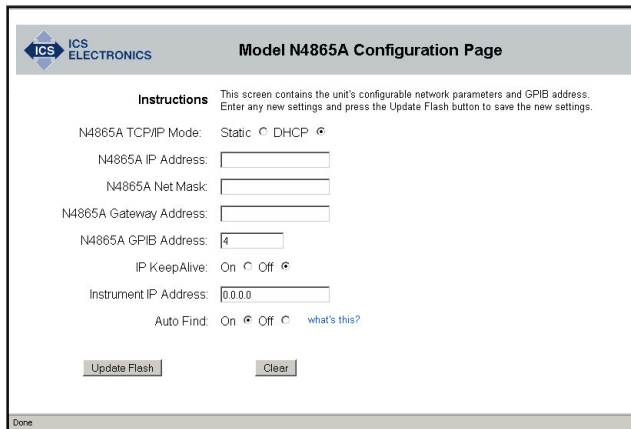

Figure 2-5 N4865A Configuration Page
6. If you want to change any of the settings, press the 'Update Configuration' button. A Configuration Page similar to the one shown in Figure 2-5 should appear in your browser.